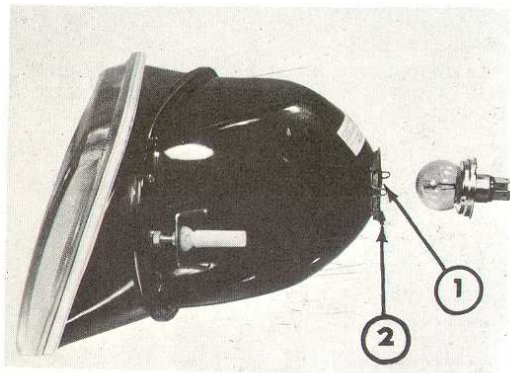

Fig. 32—“European-dip” bulb
European-dip type bulbs (fig. 32):
Right-hand drive cars: The position of the slot in which the locator seats can be varied by using a plastic slider in the housing on the reflector, in order to tilt the dipped beams for driving on the left or on the right of the road. Slide the sliders to the left when driving on the right, and vice versa. See fig. 32, item 2.